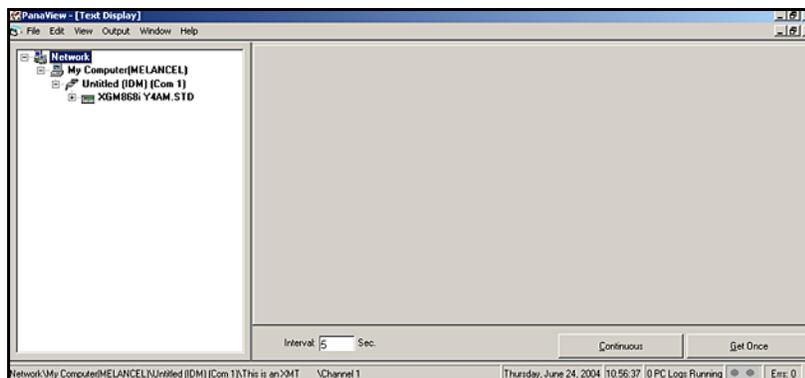

Figure 19: The Text Display Window
2. Using the *Window* menu, as described in the *PanaView Installation Guide*, arrange the open windows in the desired format. For this discussion, *Figure 19* below shows the *Text Display* window in its maximized (full-screen) size.
5. Before actual data values can be displayed in the text pane, activate one of the following data collection modes (see Figure 19 on page 54):